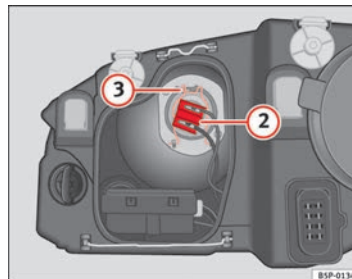

Fig. 181 Dipped beam headlights
- Remove the connector ⇒ fig. 181 ② from the bulb.
- Unclip the retainer spring ⇒ fig. 181 ③ pressing inwards to the right.